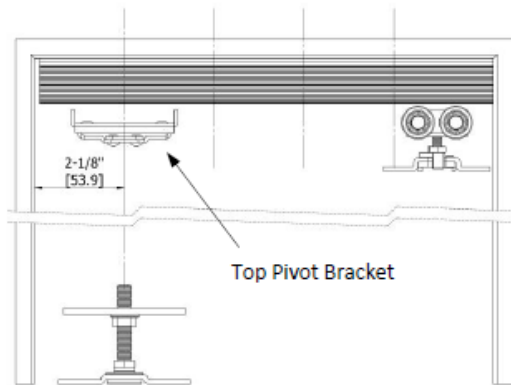

Fig 1
- Mount top and bottom pivot plates 1-3/4" from center to door edge (Fig 1)
- Mount quick release plate 1-1/4" from center to door edge (Fig 1)